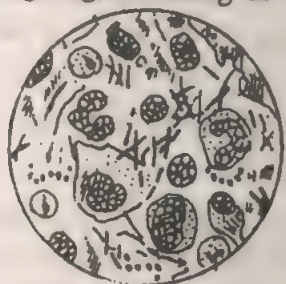

Fig. 8.3 Germs Causing Diphtheria
(2) **Diphtheria.** Causative agent is the straight or slightly curved rodshaped bacterium (Fig. 8.3). This disease is highly infectious and is characterized by the formations of patches of false membranes in the throat and wind pipe, causing obstruction of the respiratory passage resulting in death by suffocation. The toxins produced by these germs may even reach the nervous system and other parts of the body and damage them.